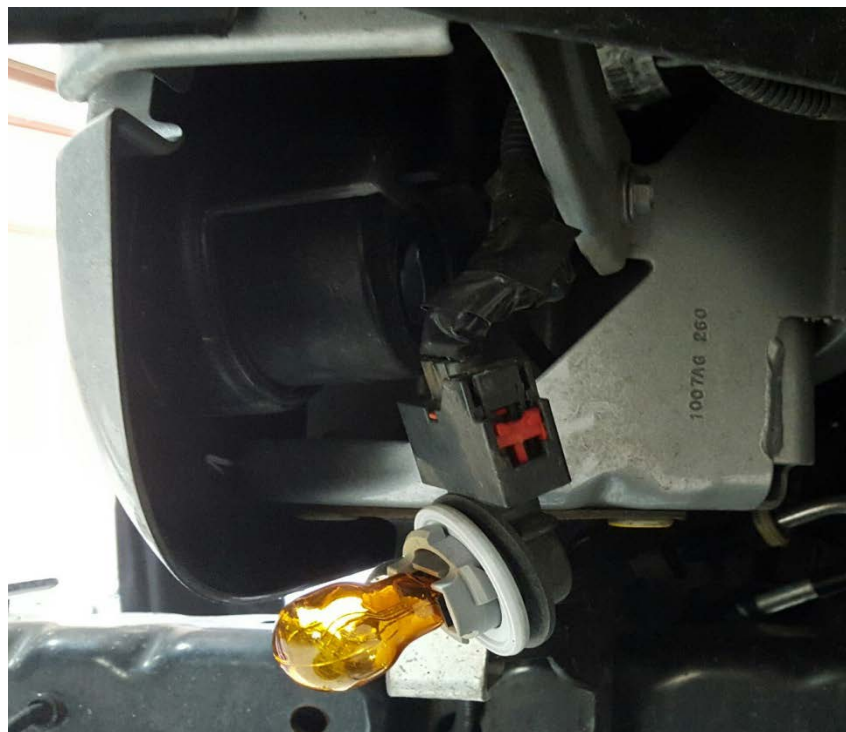

Figure 4
8. Remove the turn signal from the back side of grille, this is done by rotating and pulling light out. (Ref. Figure 4)